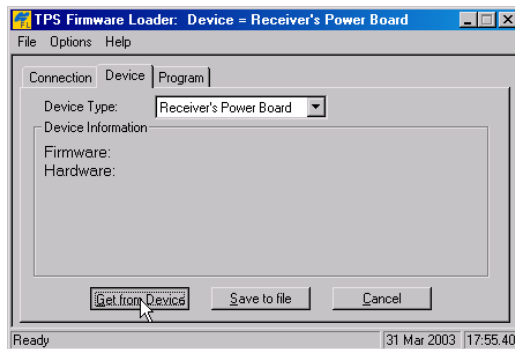

Figure 5-21. Set Device Type
5. Click the **Device** tab, and set the *Device Type* as “Receiver’s Power Board”. Then click **Get from Device** for device information (Figure 5-21).